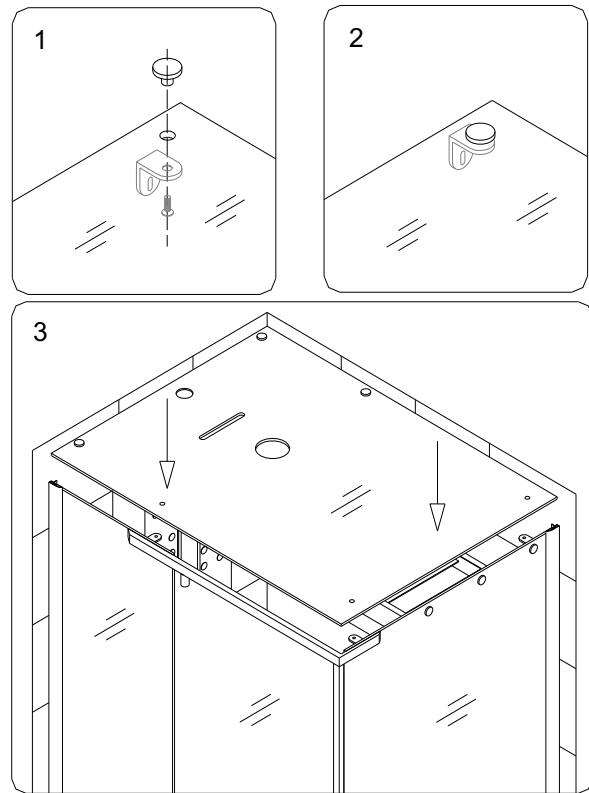

Fig. 22
14. Locate the **Roof (15)**. Please note the bottom side of the **Roof** should be without paint and plastic film. Attach the three **Roof brackets (10)** to the **Roof (15)** and place the **Roof** onto the enclosure assembly. See fig. 22 for details.